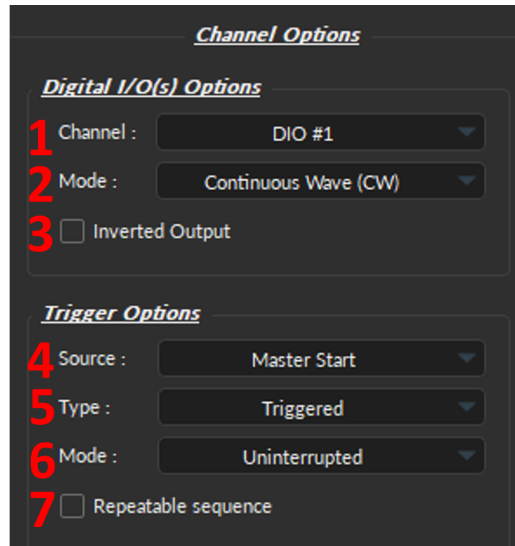
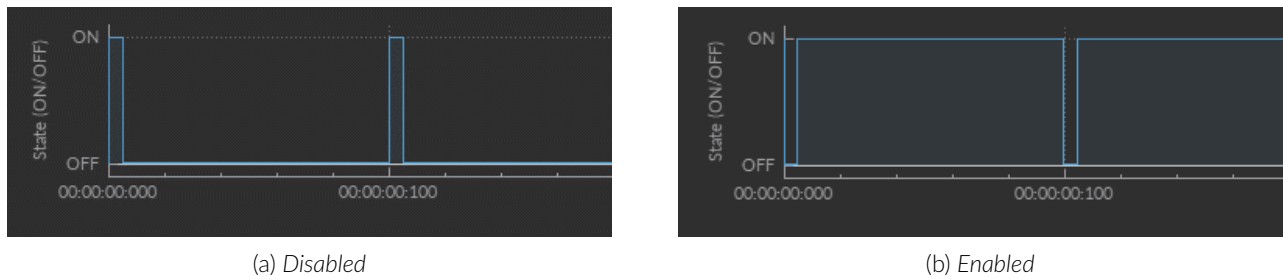

Figure 9.18: Channel(s) configuration window, Digital I/O Channel Options
Figure 9.20: *Inverted Output*
1. The **Channel** (Fig 9.18, 1) identifies the channels available to create a Digital I/O. The channel can be changed by selecting a new one from the drop-down list. Each numbered channel on the physical BFPD corresponds to the same number of the digital channel within the software.
2. The **Mode** (Fig 9.18, 2) identifies the type of signal sent (for output channels) or the way the signal is measured (for input channels). Three modes are available:
3. The **Inverted Output** checkbox (Fig 9.18, 3), when enabled, will convert every 0 to 1 and 1 to 0, such as in Fig. 9.20.
4. The **Source** trigger option (Fig 9.18, 4) specifies the element that will set off the digital output. Two options are available:
5. The **Type** (Fig 9.18, 5) defines how the trigger activates a sequence. This includes input sequences, which can be triggered/gated by an outside source.
6. The **Mode** (Fig 9.18, 6) defines how the sequence will run if a second TTL pulse is received before the sequence ends. This includes input sequences, which can be triggered/gated by an outside source. Four options are available:
7. The **Repeatable sequence** checkbox (Fig 9.18, 7), when enabled, will run the sequence when additional TTL pulses are received (Fig. 9.22).
The parameters contained in the **Sequence Options** depend on the **Channel Mode** (selected in **Channel Options**, Fig. 9.18), as following: